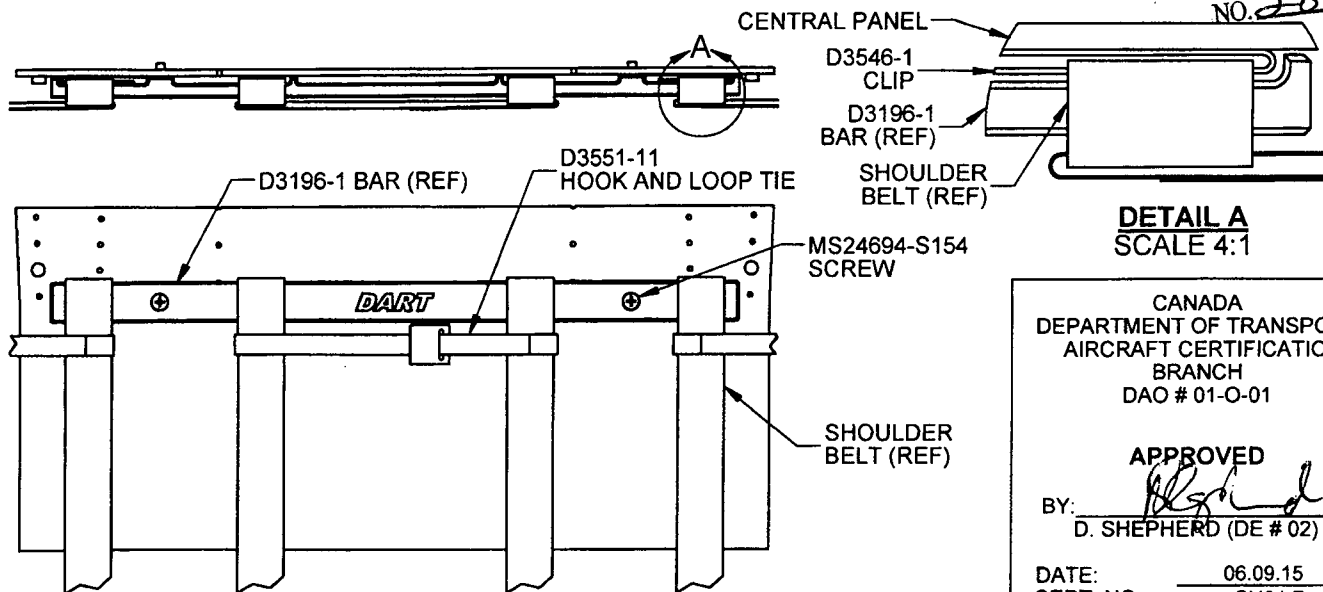

FIGURE 1. KIT INSTALLATION ON CENTRAL PANEL
1) REMOVE THE MS24694-S152 SCREWS FROM THE D3196-1 BAR ON THE CENTRAL PANEL. RE-INSTALL THE D3196-1 BAR WITH D3546-1 CLIPS USING MS24694-S154 SCREWS AS SHOWN IN FIGURE 1. ENSURE THAT THE SHOULDER BELTS ARE LOOPED THROUGH THE CLIP AS SHOWN IN DETAIL 'A'. TORQUE SCREWS TO 100-140 in-lbs (11.3-15.8 N-m). IT IS ACCEPTABLE TO USE LONGER MS24694-SXXX SCREWS AS REQUIRED TO ENSURE THAT THE D3196-1 BAR IS PROPERLY SECURED.